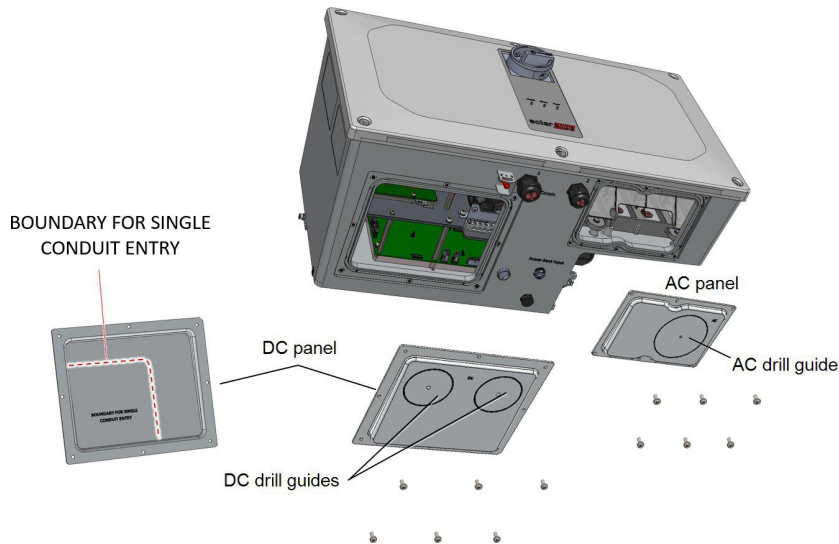

Figure 15: AC and DC panels with drill guides at the bottom of the Synergy Manager
3. Locate the drill guides for conduits on the DC and AC panels. Drill entry hole(s) for up to 2" conduit on the DC panel and 2.5" on the AC panel or drill entry hole for a single conduit, within the boundary marked on the inner side of the DC panel (see Figure 15).